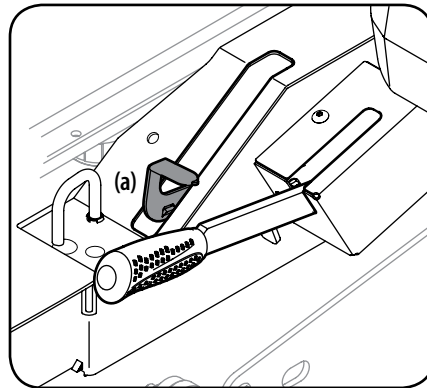

Figure 4-5
1. Engage the transmission bypass valves by pulling the bypass lever (a) upward and all the way back. See Figure 4-5.